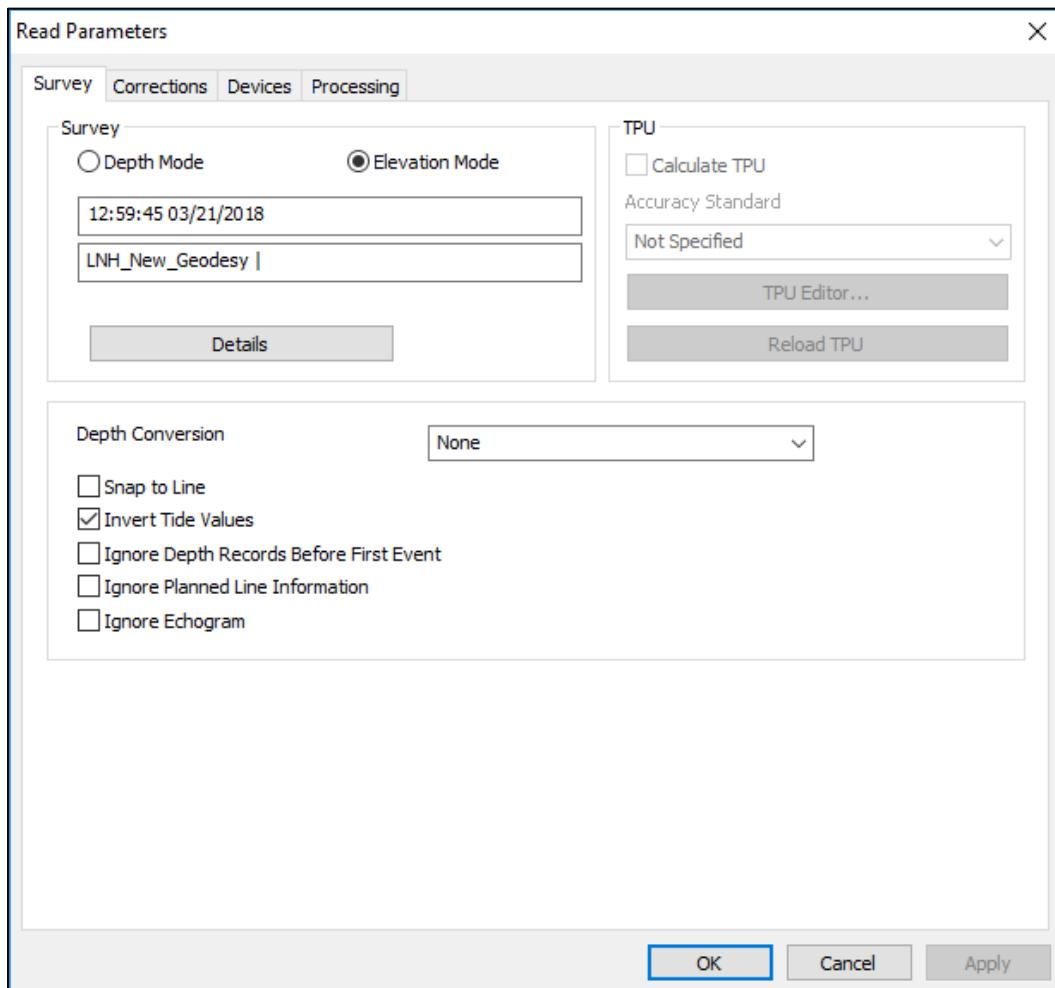
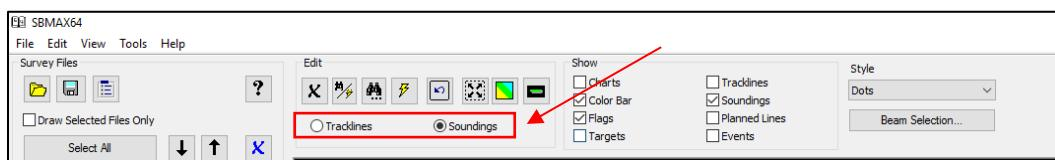

Figure 16.—Survey tab in the Read Parameters window in SBMAX64.
Figure 22.—Tracklines and Soundings in the SBMAX64 main menu window.
1. Under the **Survey** tab in the Read Parameters window, verify the “Elevation Mode” radio button is selected. Under Depth Conversion, verify “Invert Tide Values” is checked (figure 16).
It is possible that the user may encounter problems with SBMAX64 displaying properly. Although not confirmed, these issues might arise from not having all the files selected when changing parameters. Sometimes clicking back and forth from “Tracklines” to “Soundings” in the SBMAX64 main menu window will help (figure 22). In addition, verify the Depth Conversion “Invert Tide Values” box is checked under the Survey tab in the Read Parameters window (figure 16).